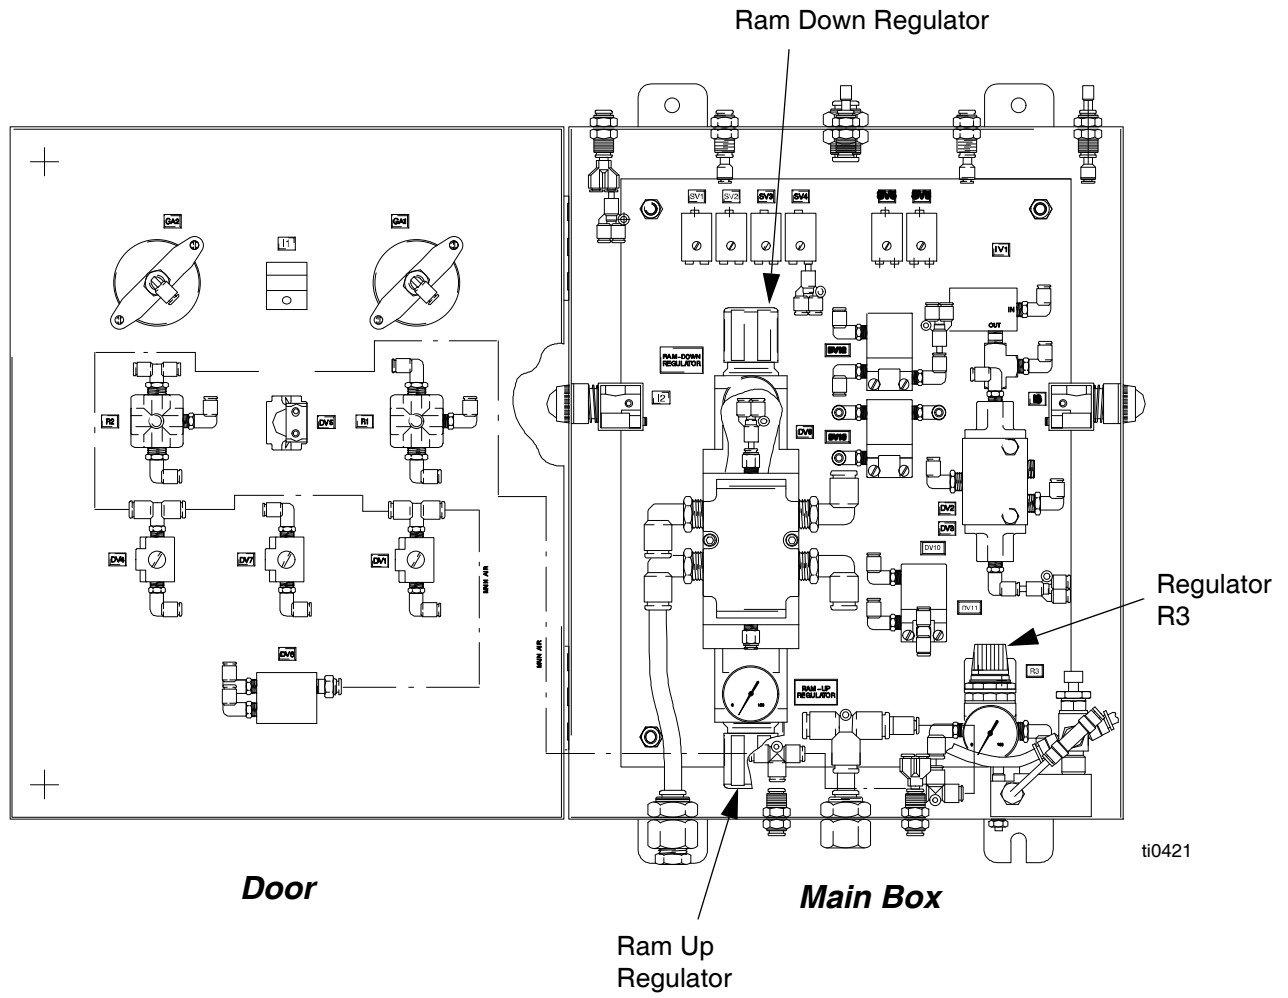

FIG. 11
- a. Turn the knob clockwise to increase air pressure or counterclockwise to decrease air pressure (see FIG. 11 on page 29).
33. Set the RAM POSITION switch to RAISE and push the RAM UP pushbutton. Verify that the follower plate (5) elevates at the desired speed. If not, do the following:
- a. Adjust the RAM-UP REGULATOR. Turn the knob clockwise to increase the amount of air pressure. Check the air gauge to verify that air pressure was increased. See FIG. 11 on page 29.
NOTE: See FIG. 11 on page 29.